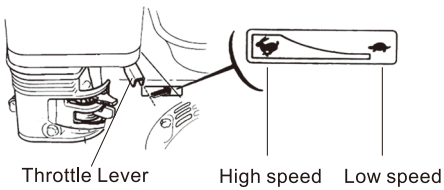

Fig.13
1). Move the throttle lever to the right end flow speed). (Fig. 13)